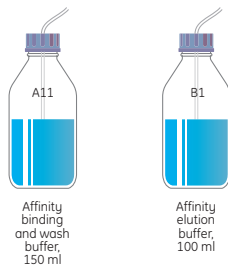

Fig 2. Buffers required to run the "Affinity Blank Run" template.
- Prepare required buffers, see Figure 2.
- Place the inlet tubings in the buffers according to Figure 2.